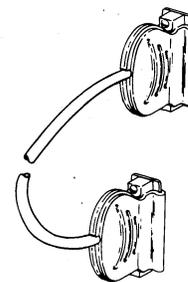
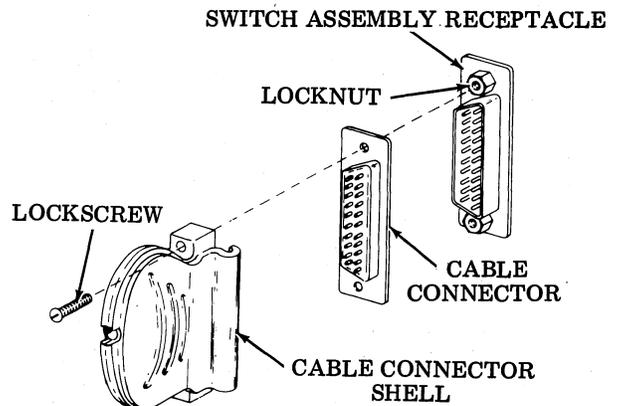

Fig. 2—TP341896 Cable Assembly
Fig. 6—Terminating Connectors on Switch Assembly
2.01 The switch assembly is packaged separately with the appropriate drawings and wiring diagrams, and a TP341896 cable assembly (Fig. 2). Unpack carton, inspect assembly for visible damage, and prepare to install.
4.03 Connect the seven-foot interconnecting cable (TP341896, shown in Fig. 2), shipped with the switch assembly, as shown in Fig. 7 and 8. Secure terminal connector screws to locknuts on switch assembly connectors as shown in Fig. 6.